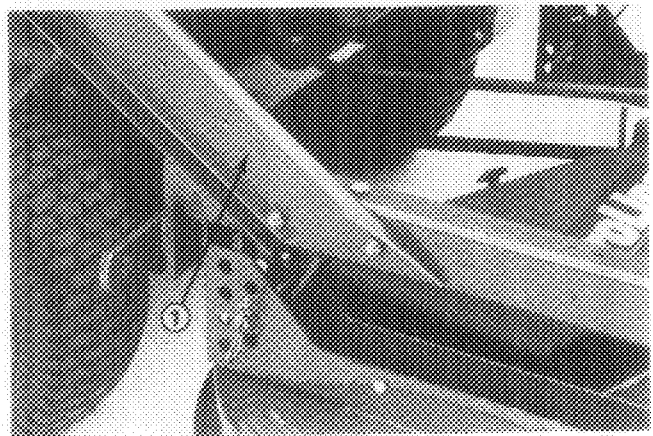

Figure 5
6. Secure front of bagger frame to carrier frame and frame angle bracket with (2) capscrews and locknuts previously removed (Fig. 5). Tighten all mounting screws and locknuts.